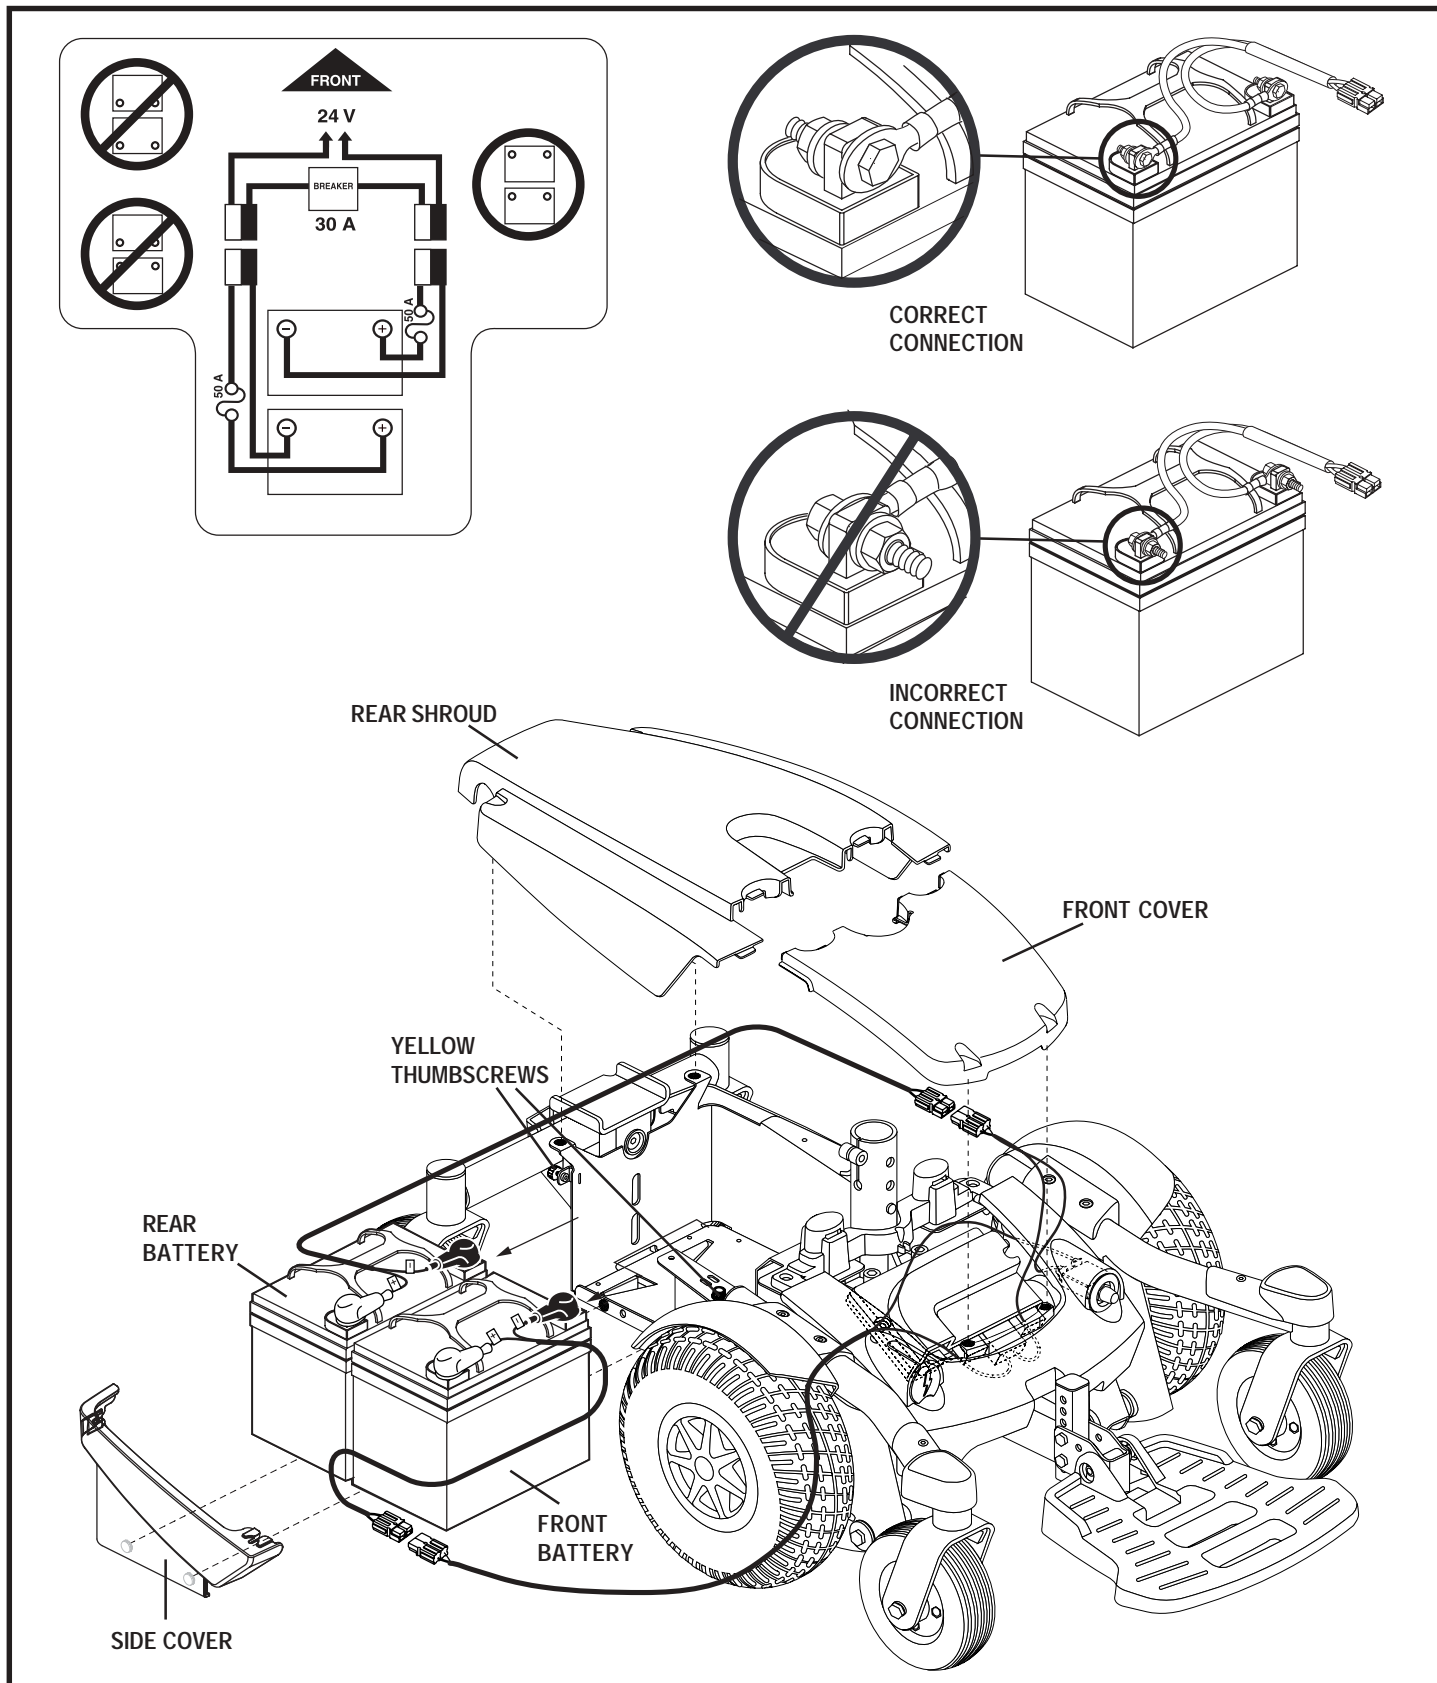

Figure 30. Battery Installation (Seat Removed for Clarity - Select 6 Shown)
3. Remove the rear shroud. See figure 30.
5. Disconnect the rear battery harness from the power base. See figure 30.
8. Disconnect the front battery harness from the power base. See figure 30.
10. Remove the battery harnesses from the old batteries and install them onto the new batteries. Make sure that the hardware is facing the correct direction. See figure 30.
11. Place the front battery into the power base. Make sure that the terminals are facing the front of the power base. See figure 30.
14. Place the rear battery onto the power base. Make sure that the terminals are facing the front of the power base. See figure 30.